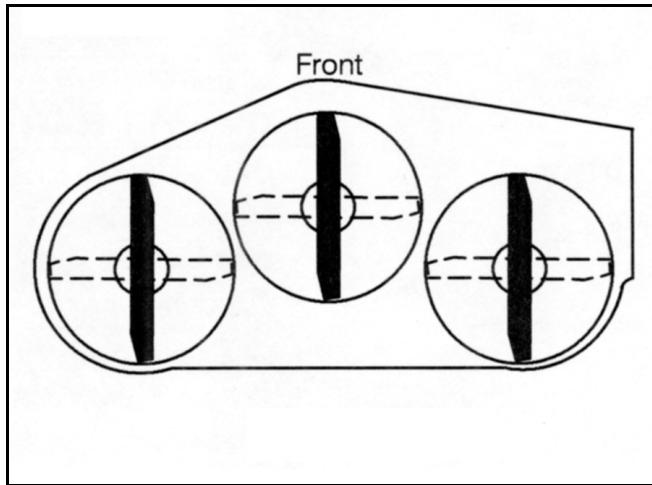

Figure 131
1. Rotate the blades until the ends face forward and backward (Figure 131). Measure from a level surface to the cutting edge of the blades (Figure 132). Note this dimension.